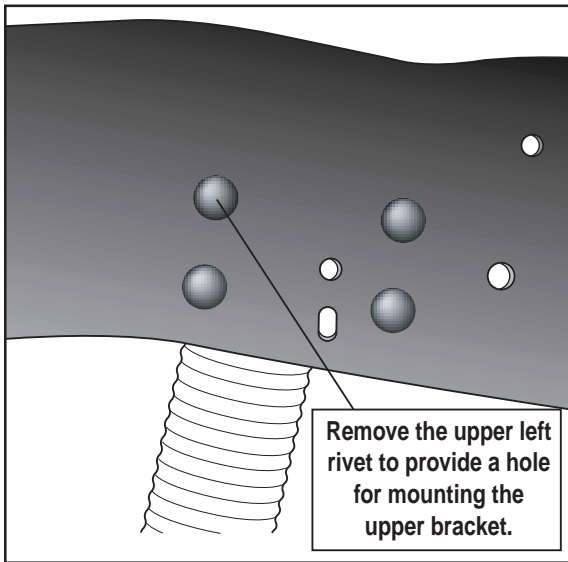

Figure 6
2. On 2005 models it will be necessary to remove the top rear shock bracket rivet (on the passenger side only) to mount the upper bracket (Figure 6).
1. Remove the rear, top shock mounting rivet on the passenger side of the vehicle to provide a mounting hole for the upper bracket (Figure 6).